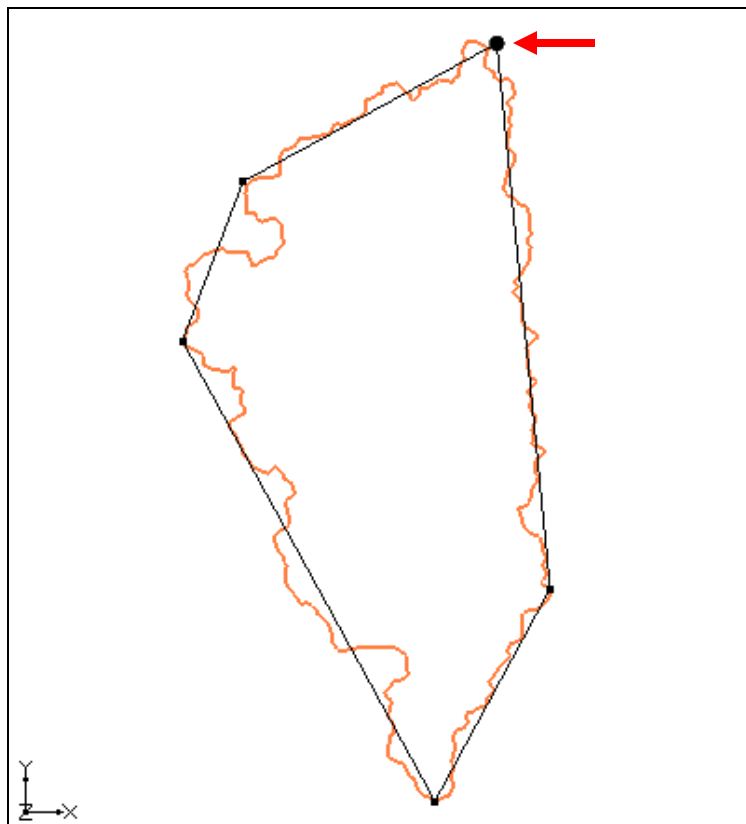

Figure 18 Creating an arc for the watershed boundary
3. Using the **Create Arc**  tool, create a simple arc as shown in Figure 18 by clicking in the Graphics Window. Click on the starting point (indicated by the red arrow in Figure 18) to close the arc to form a polygon. Hit the *Backspace* key to remove the last point clicked.